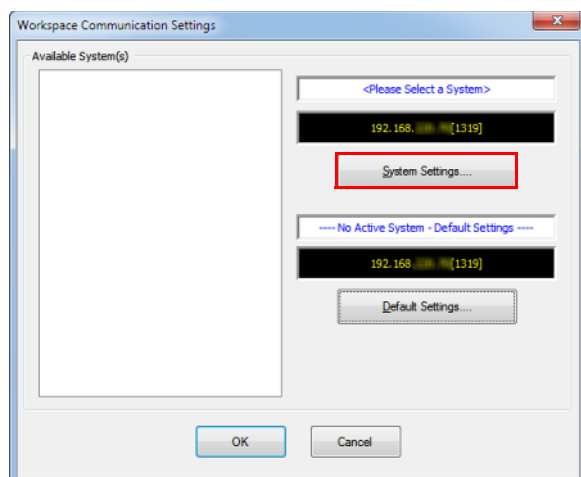

FIG. 15 NetLinX Studio - Workspace Communication Settings dialog
2. Select **Settings** > **Workspace Communication Settings** from the Main menu to open the *Workspace Communication Settings* dialog (FIG. 15):